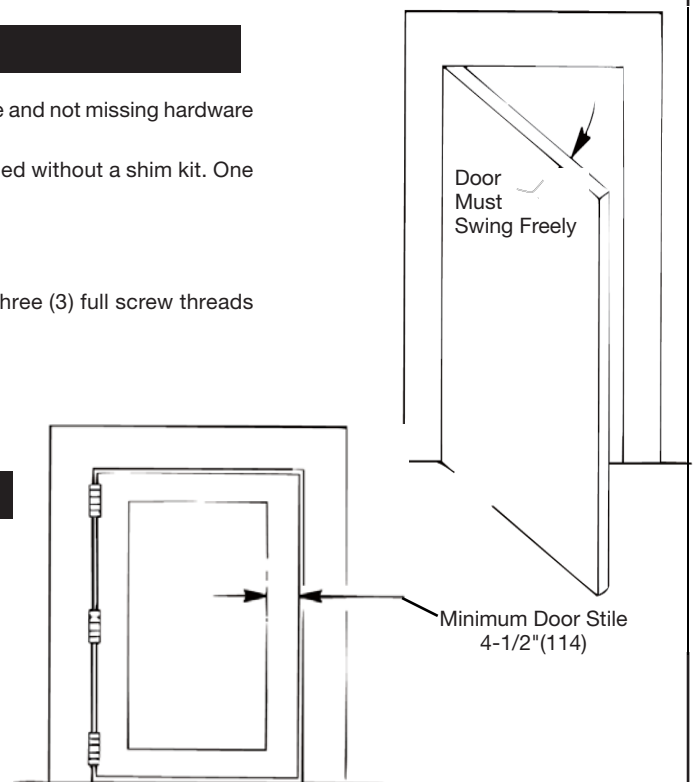

Figure 2: Installation Check
1. Make sure the door is plumb and level. Check that the hinges are secure and not missing hardware (see Figure 2).
2. If surface of the door is free of raised projections, device may be installed without a shim kit. One (1) shim kit is needed for each 1/4" of projection:
4. Determine if door is reinforced. Door and frame thickness must have three (3) full screw threads to be considered reinforced.